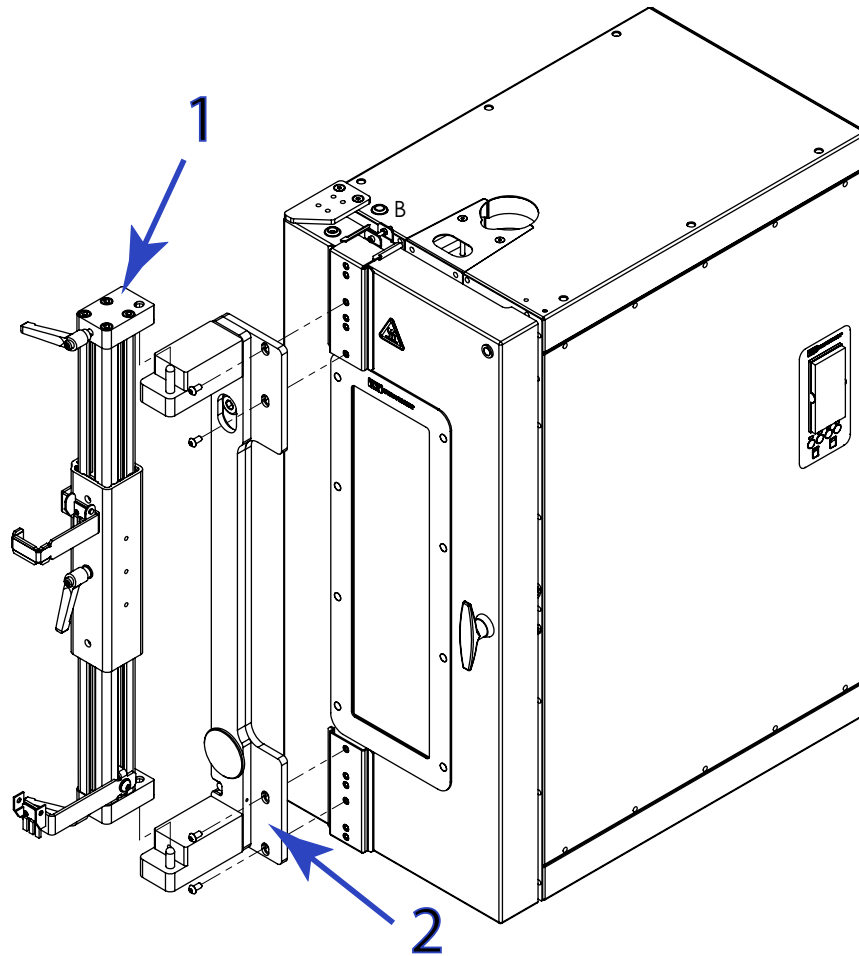

Figure 17. Environmental chamber mounting
Figure 17 on page 41 shows how the extensometer and post assembly (1) mounts onto a swing plate (2) which attaches to the front of the chamber.